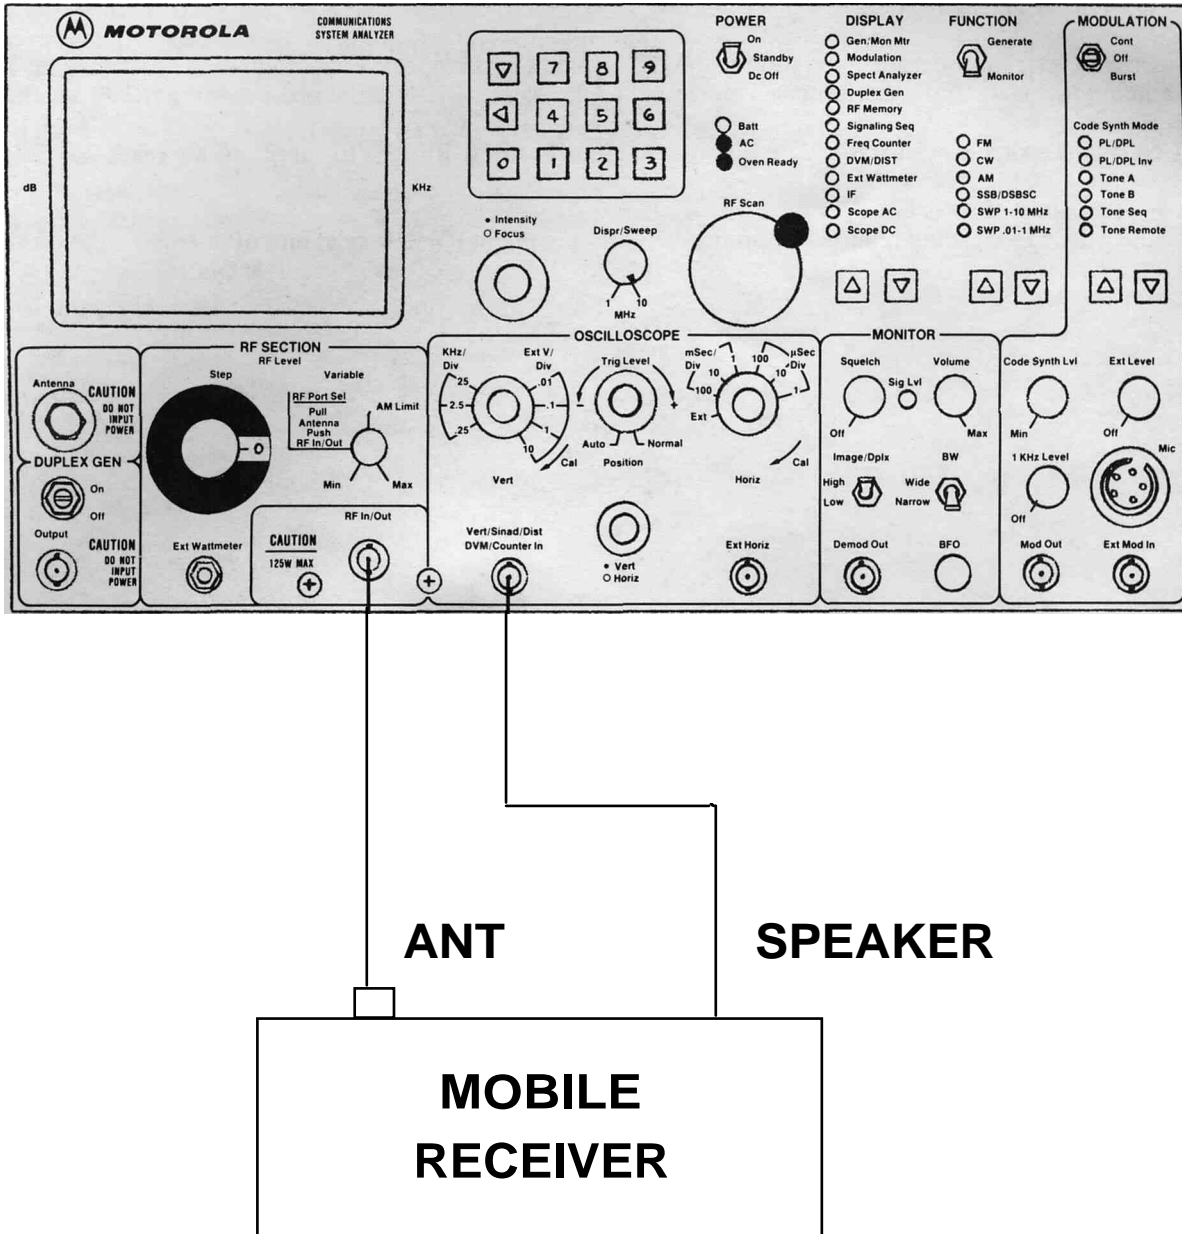

FIGURE 4-3. SQUELCH SENSITIVITY TEST SETUP
1. Connect the Analyzer to the receiver under test, as shown in figure 4-3. Set DISPLAY to Gen/Mon Mtr, FUNCTION switch to Generate FM, and enter the frequency of the receiver under test.